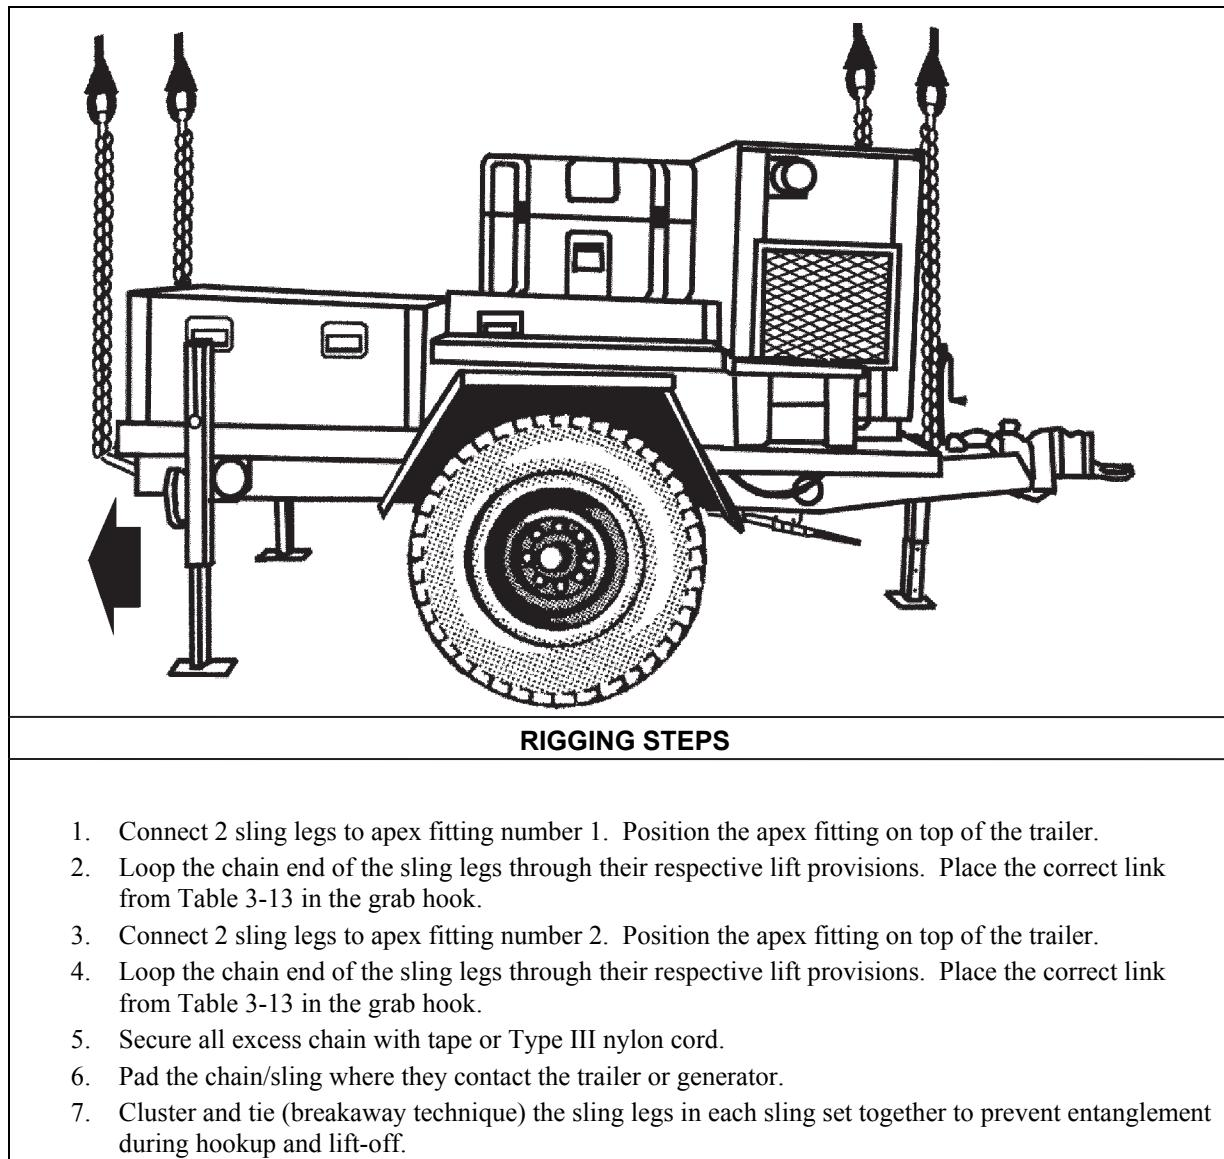

Figure 3-13. Special Operations Media Systems on COPS Trailer
- **Rigging.** Rig the load according to the steps in Figure 3-13.